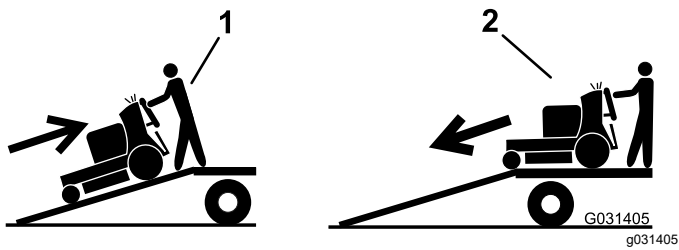

Figure 31
5. Back the machine up the ramp (Figure 31).